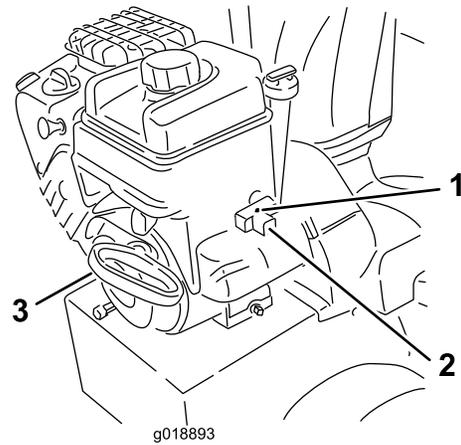

Figure 26
- Start the machine pulling the recoil starter or pressing the electric-starter button (Figure 26).